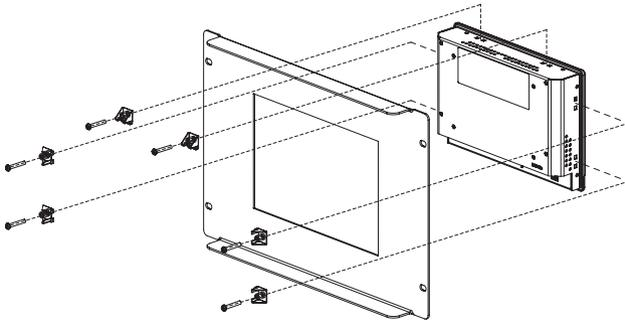

**Figure 2.1: Wallmounting**
Please refer to figure 2.1 and follow the steps below to install FPM-3060G on a wall. The wallmounting kit is optional.
2. Screw three screws on the wall with the dimensions used in Figure 2.1.